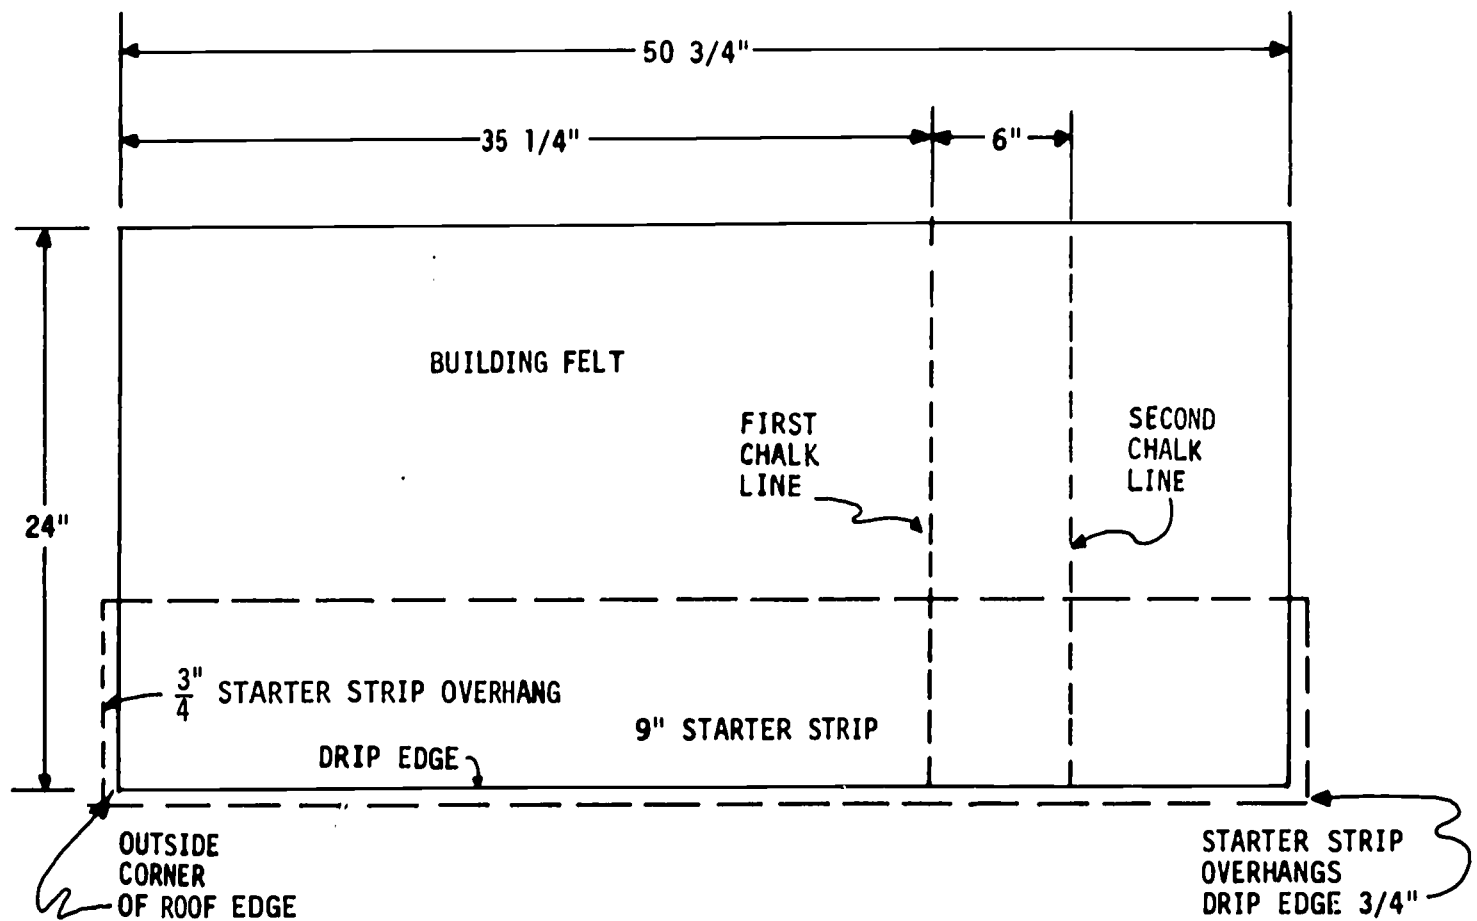

Fig. 107-1. Roof Section Laid Out for Shingles
(closed) end of the structure. See Fig. 107-1.
4. Measure 6" to the right of your previous mark, at both the top and bottom of the roof, and mark these points. See Fig. 107-1.